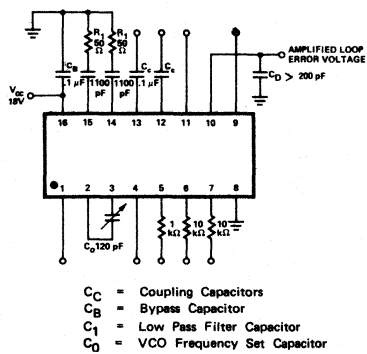

FIGURE 1
**ELECTRICAL CHARACTERISTICS (For Tracking Filter, Figure 1) (15K $\Omega$  Pin 9 to GND, Input Pin 12 or Pin 13 AC Ground Unused Input, Optional Controls Not Connected, V+ = 18V Unless Otherwise Specified TA = 25°C)**